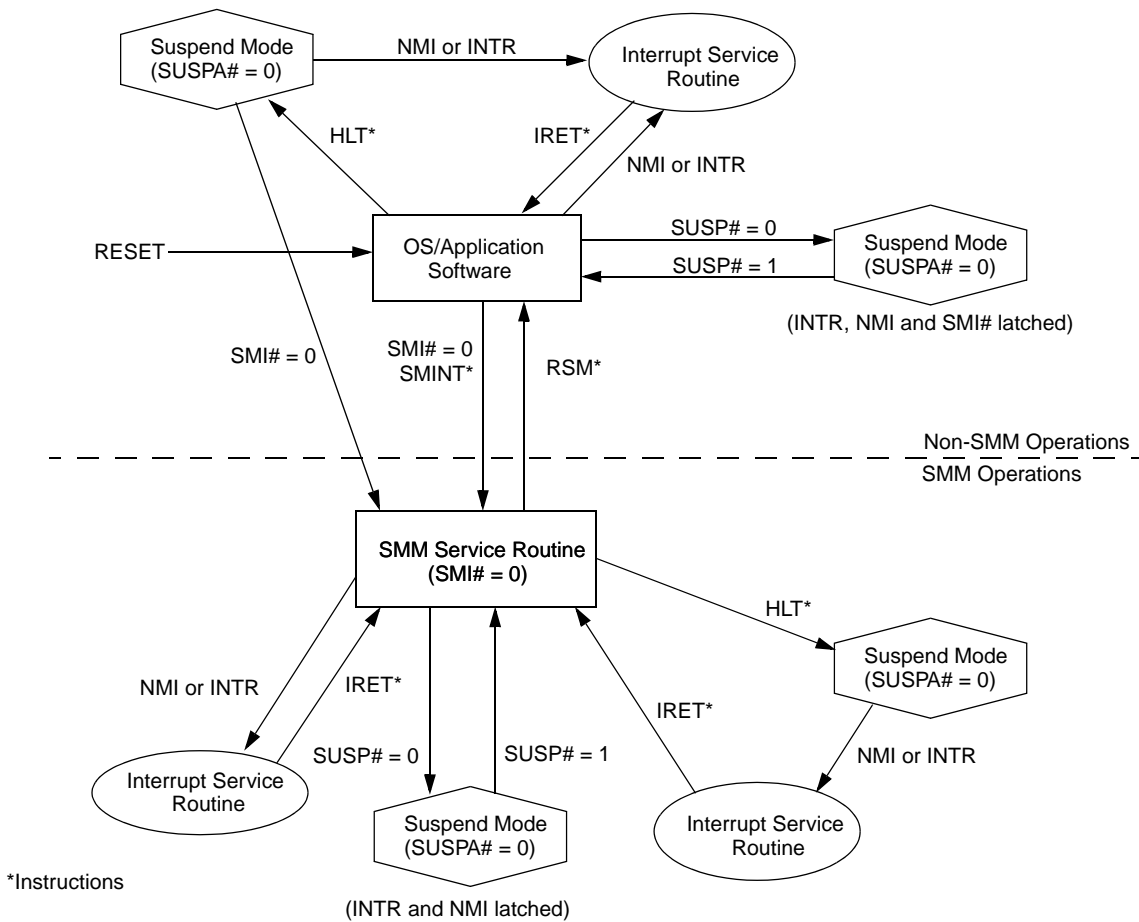

Figure 4-12. SMM and Suspend Mode State Diagram
The state diagram shown in Figure 4-12 illustrates the various CPU states associated with SMM and Suspend mode. While in the SMM service routine, the GX1 processor core can enter Suspend mode either by (1) executing a halt (HLT) instruction or (2) by asserting the SUSP# input.